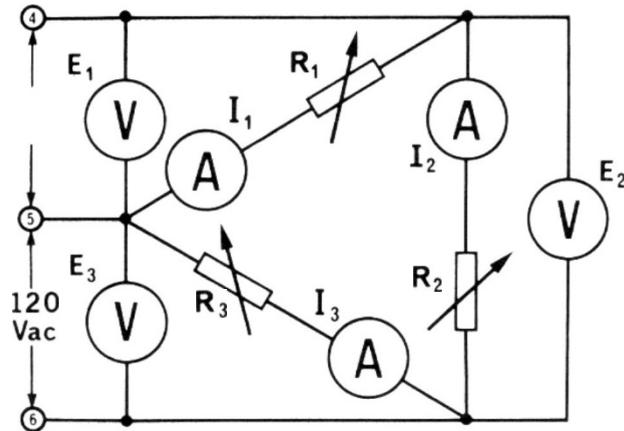

Figure 02-3
- 5) Connect the “A”-circuit as shown in Figure 02-3: